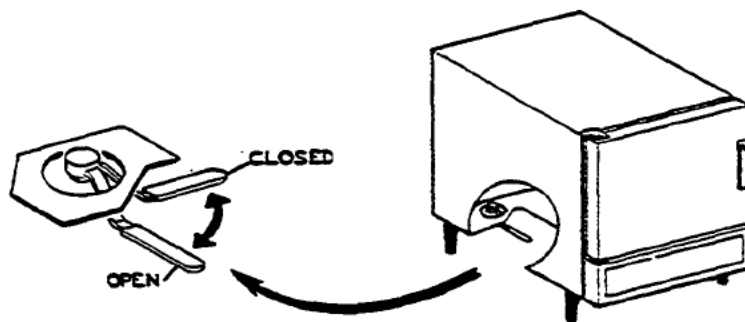
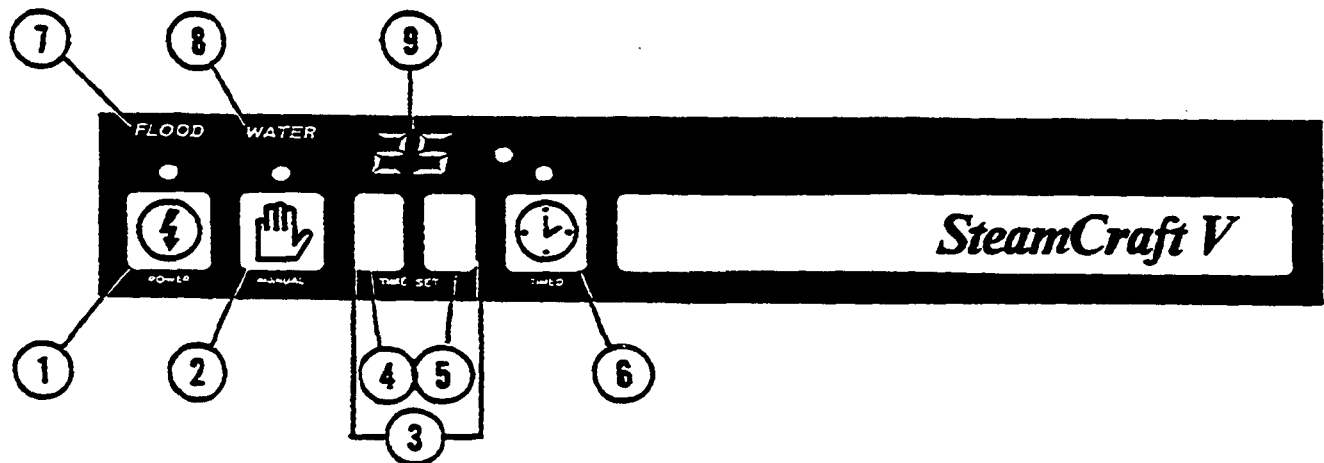

Figure 2-21. Drain Valve Open/Closed
Figure 2-22. Control Panel
2. Refer to figure 2-21, and dose the drain valve (handle points toward right side of the unit).
7. Refer to figure 2-22, and turn on the SteamCraft V by pressing the POWER touch pad. The red light above POWER and the WATER alarm light turn on.
2. Refer to figure 2-22, and set the TIME DISPLAY (9) to 01 minute by pressing the TIME SET minute touch pad (5) once.
2. Refer to figure 2-22, and set the TIME DISPLAY (9) to 10 minutes by pressing the TIME SET 10 minute touch pad (4) once.
3. Start the timed cooking sequence by pressing the TIMED touch pad (6).
4. When the alarm beeps four times, refer to figure 2-21, and open the drain valve. Measure the temperature of the drain water. It should be between 150° and 170°.